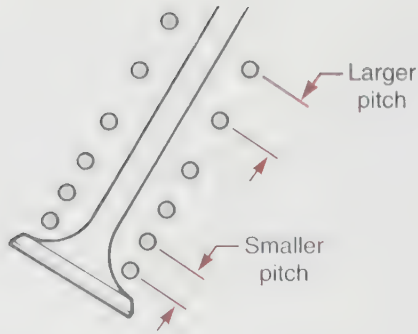

Figure 20-28. The tightest coils of progressive wound valve springs must be installed toward the cylinder head. (Yamaha Motor Corporation U.S.A.)
4. Install progressively wound valve springs with the tight coils toward the bottom collar, **Figure 20-28**.